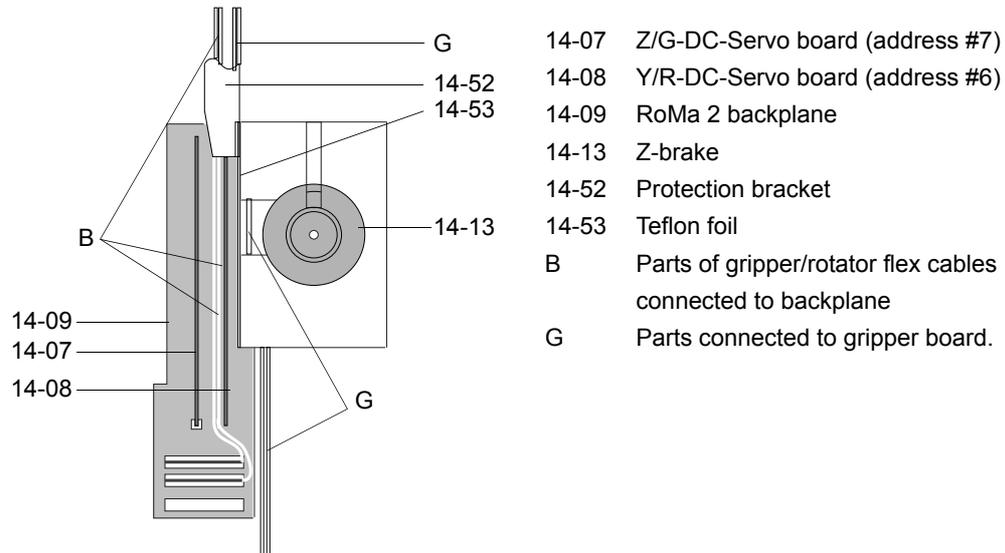

Figure 6-121 Proper laying of the gripper/rotator flex cables
Insert the gripper/rotator flex cable properly according to Figure 6-121.
- Insert the gripper/rotator flex cable as shown in Figure 6-121: